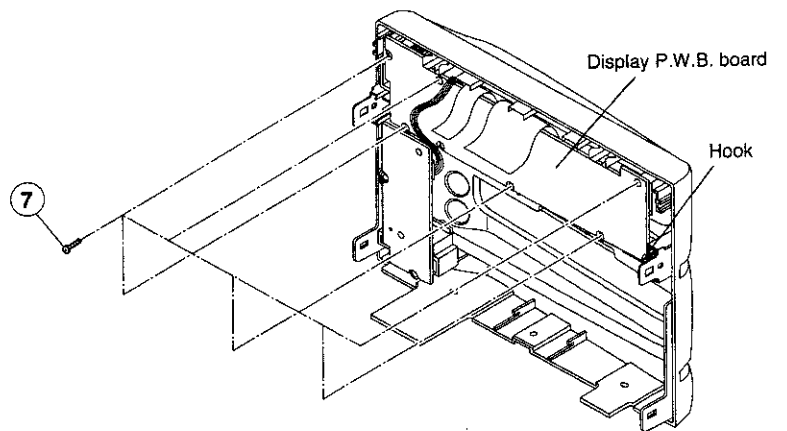

Fig. 20
(1) Remove 1 screw ⑨ from (bottom of) front panel.
(2) Remove the bottom chassis from the front panel by releasing the claws that hold the bottom chassis to the front panel together.
7. **Removal of Display P.W.B. Board (Fig. 20)**